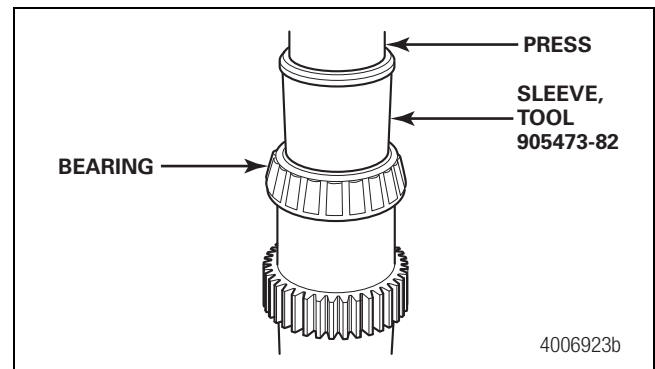

Figure 6.1
2. Use a press and sleeve, tool number 905473-82, to press the forward bearing DOWN onto the output shaft until it is fully seated. Refer to Section 13 for the tool drawing. Press down only on the inner race of the bearing during installation. Use a 0.002-inch shim or feeler gauge to check that the bearing is correctly seated. Figure 6.1.